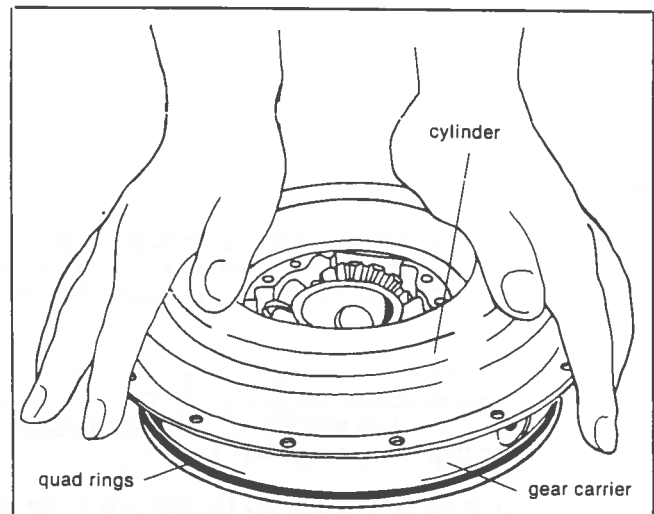

Figure 22. Pressing Cylinder on Bevel Gear Carrier
B. With forward side of gear carrier up, press cylinder on by hand. (See figure 22).